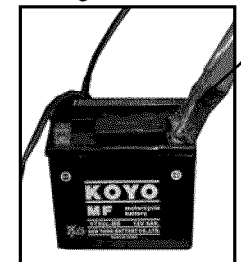

Figure 24
1. Connect the red positive (+) cable to the red positive (+) pole of the battery. (see figure 24)